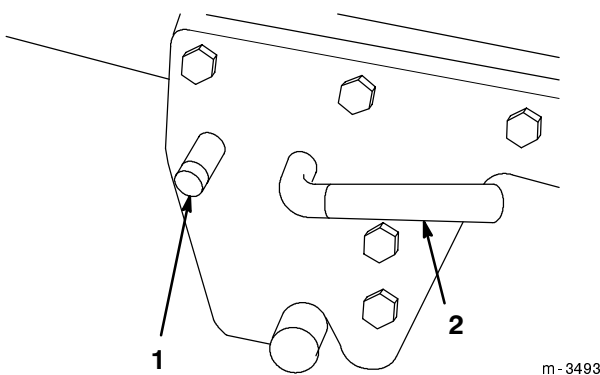

Figure 18
7. Release the crank support for the chute control rod from the mid Attach-A-Matic by pressing the release button and turning the Attach-A-Matic lever clockwise (Fig. 18).